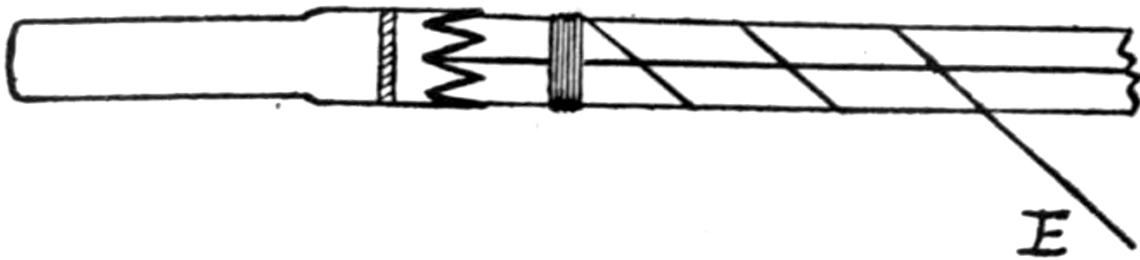

Fig. 2—Silk winding
and start to wind a spiral toward the smaller end, rotating the joint away from you between the fingers of the left hand, while you hold the silk (E) taut between the thumb and forefinger of the right hand, pulling toward you and to the right (Fig. 2). The spool-end, E, is rendering from the spool as you hold the latter in your hand, or as it rests in a convenient receptacle to prevent its rolling away.